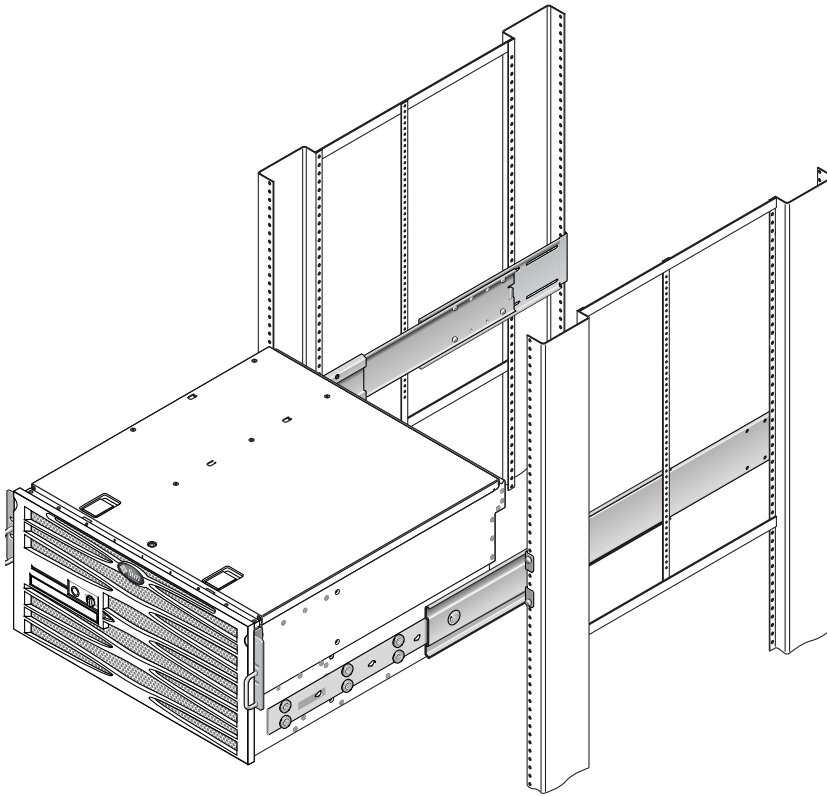

FIGURE 3-13 Sliding the System Into the Rack
14. Push in the slide buttons and slide the system all the way into the rack enclosure (FIGURE 3-13).